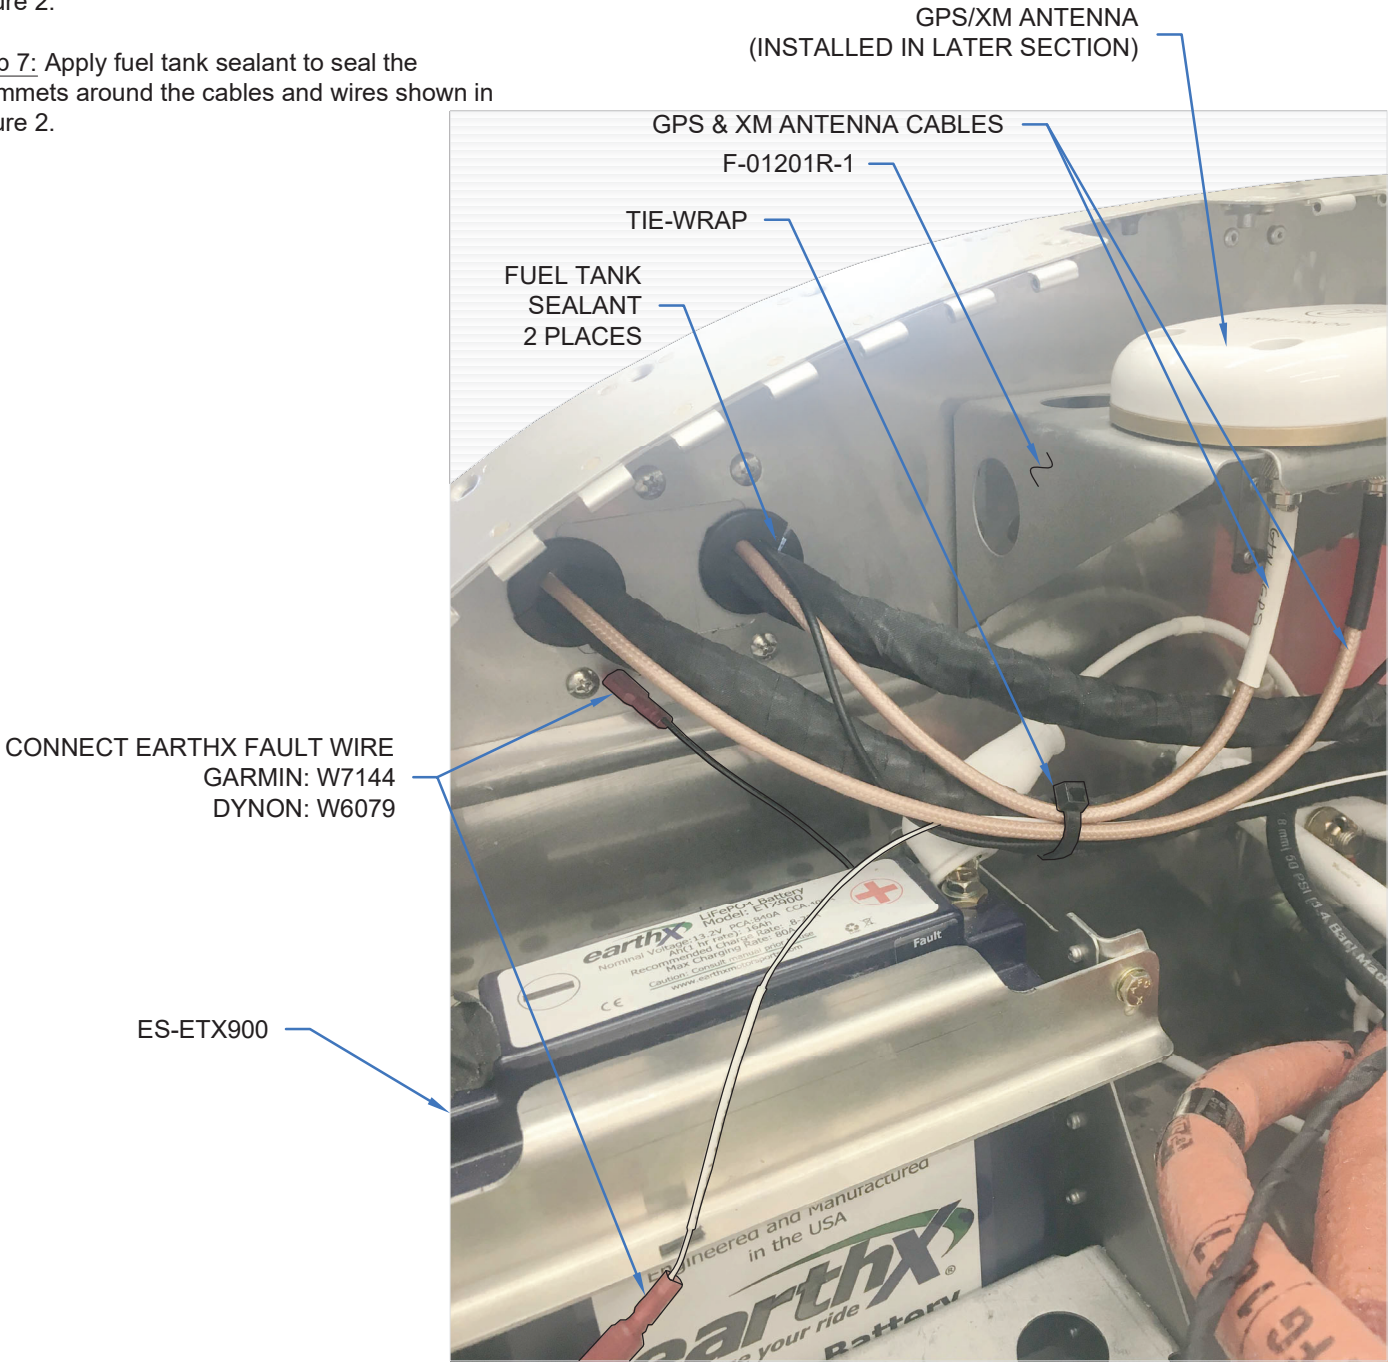

FIGURE 2: GPS AND XM ANTENNA CABLE ROUTING
Step 5: Secure the GPS and XM antenna cables as well as the EarthX fault wire to the Rotax ECU cables with a tie-wrap as shown in Figure 2.
Step 6: Connect the spade terminal on the EarthX fault wire to the spade terminal on the wire from the ES-ETX900 as shown in Figure 2.
Step 7: Apply fuel tank sealant to seal the grommets around the cables and wires shown in Figure 2.